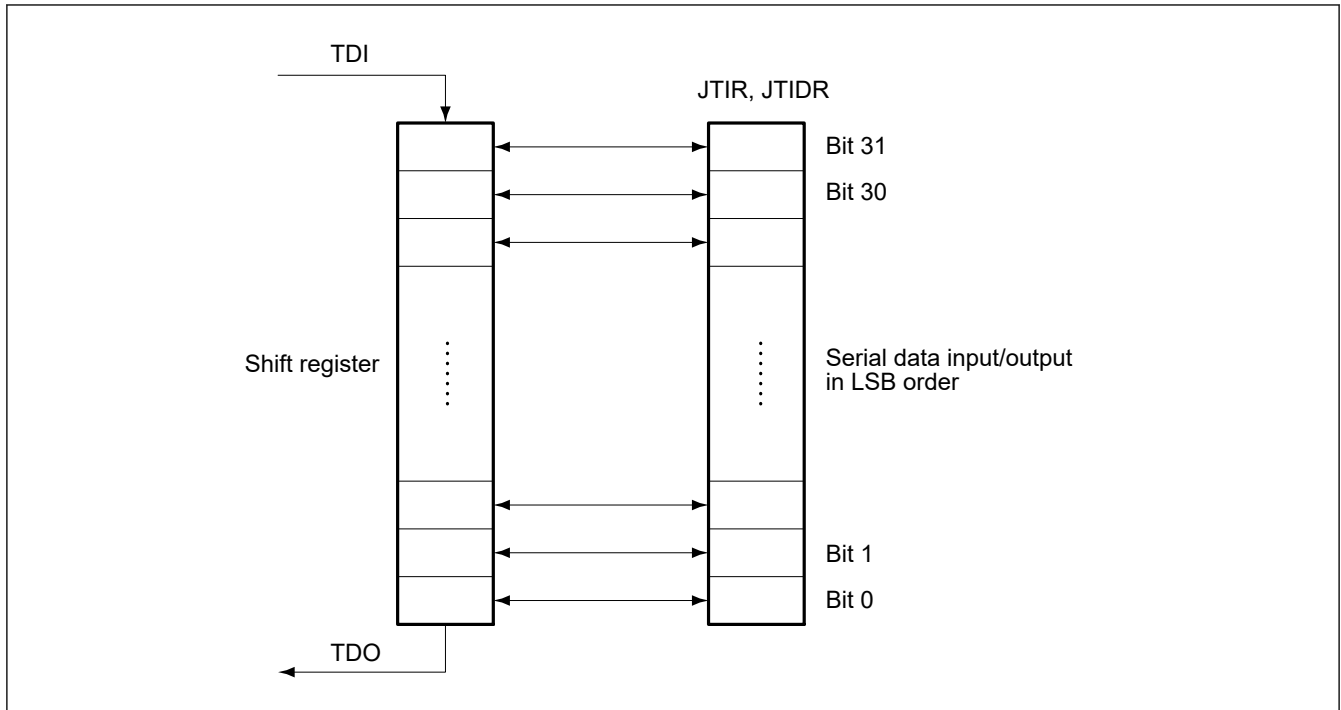

Figure 51.3 Serial data input/output
- Serial data input/output is in LSB order, as shown in Figure 51.3